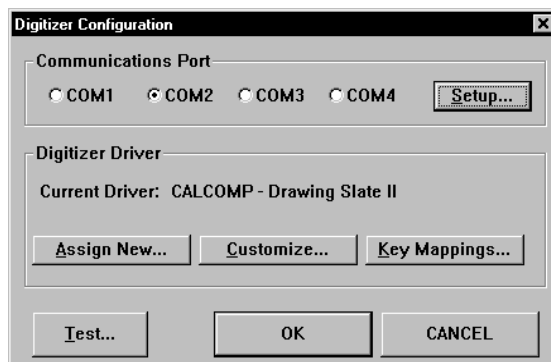

Figure 7.0: Digitizer Configuration Dialog Box
1. Select Digitizing | Digitizer Config, to open the *Digitizer Configuration dialog box* shown in Figure 7.0.